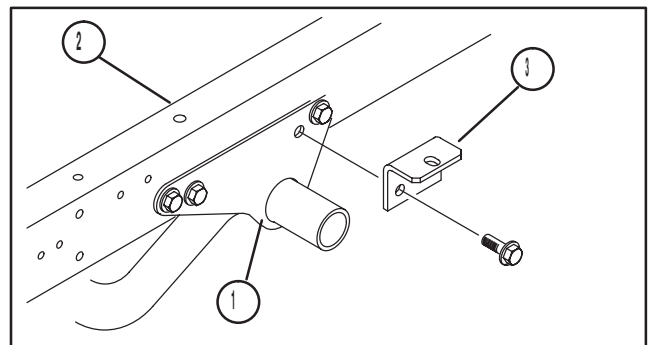

Figure 4
1. Remove (2) flange head capscrews and flange locknuts securing rear of each engine frame mounting bracket to each side of vehicle frame (Fig. 4).
2. Loosely secure an attachment bracket to each engine frame mounting bracket and vehicle frame with (2) flange head capscrews and flange locknuts previously removed (Fig. 4).